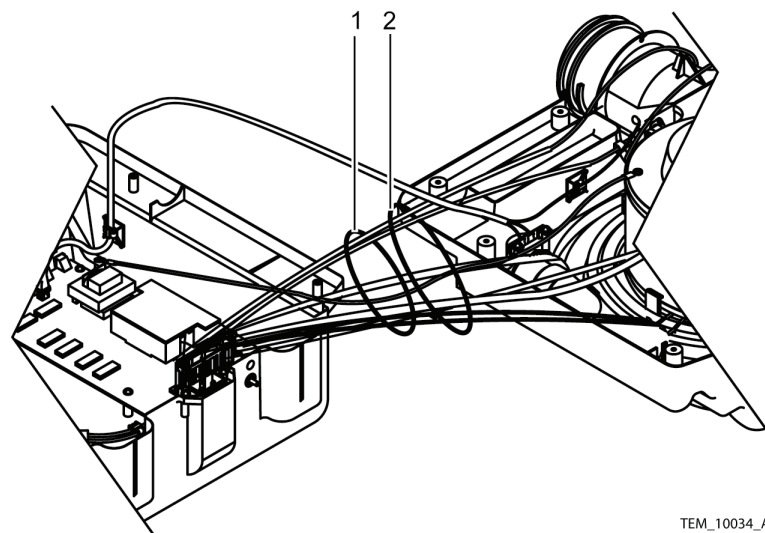

Figure 40. Cable Harness Bundle Ties
15. Install the cable harness bundle ties. See Figure 40, item 1.